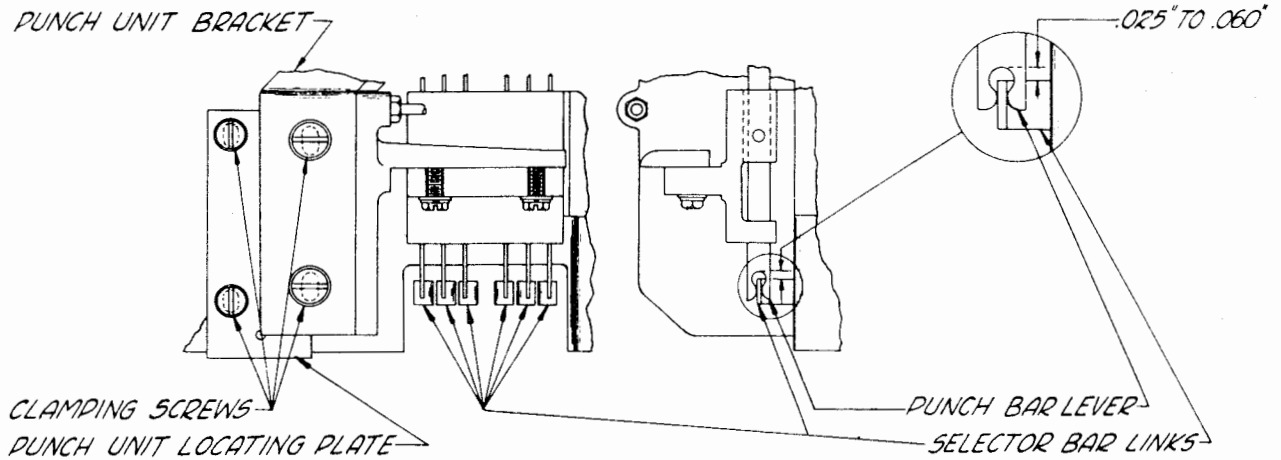

Figure 30
2.68 Punch Unit: There should be a clearance of minimum 0.025 inch, maximum 0.060 inch, as indicated in Figure 30, between the upper edges of the front and rear selector links and the tops of the slots in their respective punchbar levers; also the punch-hammer operating-lever roller should ride fully on its cam. See Figure 30.